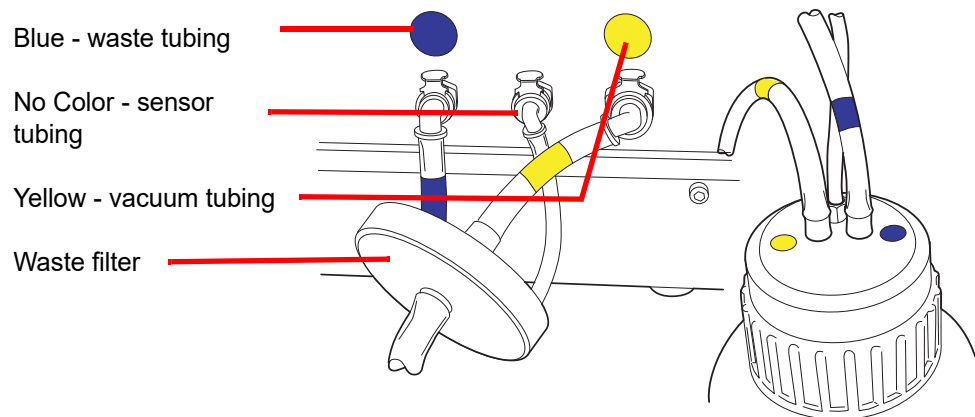

Figure 8-13 Waste Bottle Tubing Connections
3. Locate the three waste bottle connections at the rear of the ThinPrep 5000 processor. See Figure 8-13. Ensure that the buttons of the connectors are in the down/inward position.